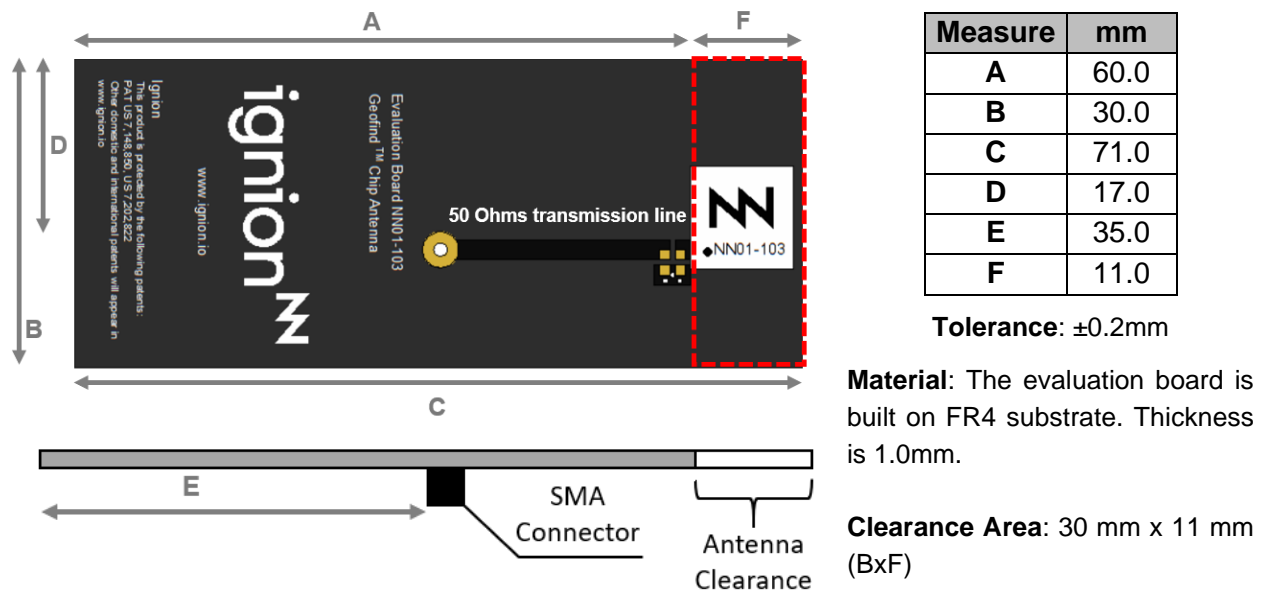

Figure 1 – EB_NN01-103. Geofind[™] Evaluation Board.
Table 1 – Technical Features. Measures from the evaluation board. See Figure 1 and picture in page 8.
The Ignion configuration used in testing the Geofind[™] Embedded Antenna is displayed in Figure 1.
Table 2 – Antenna Gain and Total Efficiency from the evaluation board (Figure 1) for BeiDou (1561 MHz), GPS (1575 MHz) and GLONASS (1598-1606 MHz) bands. Measures made in the Satimo STARGATE 32 anechoic chamber.
Feed Pad (1): the black circle on the top of the antenna indicates the position of the feed pad in the bottom. Align the feed point with the feeding line on the PCB. See Figure 1.